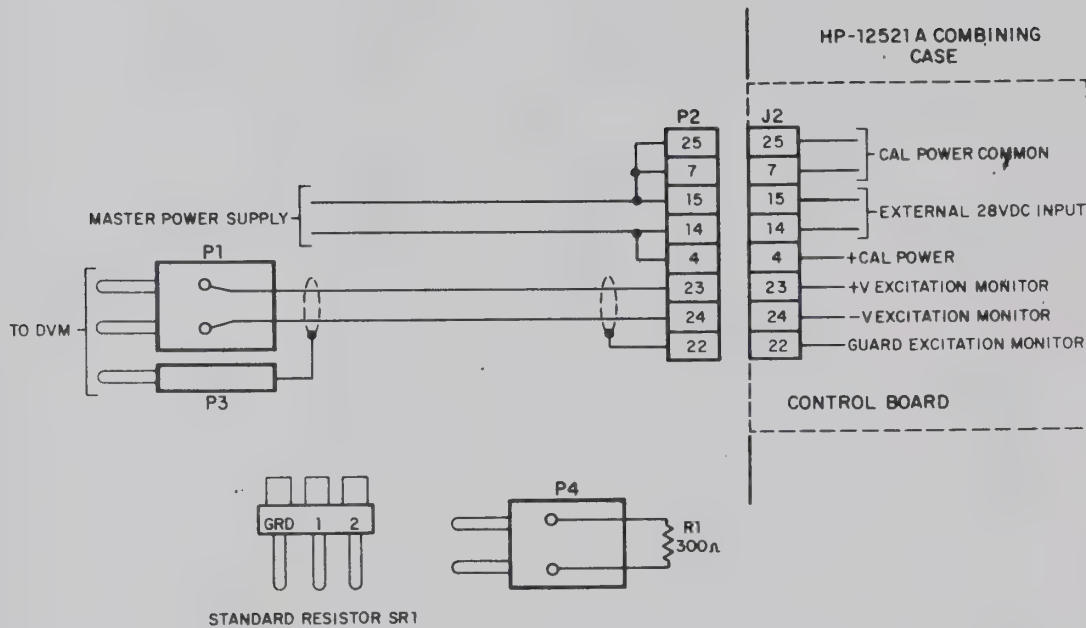

Figure A-3. Combining Case Connections Required for HP 2480C Check-Out
- a. Test cable as shown in Figure A-3. Make from:
- b. Test plug as shown in Figure A-3. Make from dual banana plug, HP part No. 1251-0005H, and 300Ω , 10 watt resistor.
This check-out procedure employs the user-furnished 28-volt master power supply connected as shown in figure A-3. The master power supply is the normal source of power for a system that contains HP-2480C's .